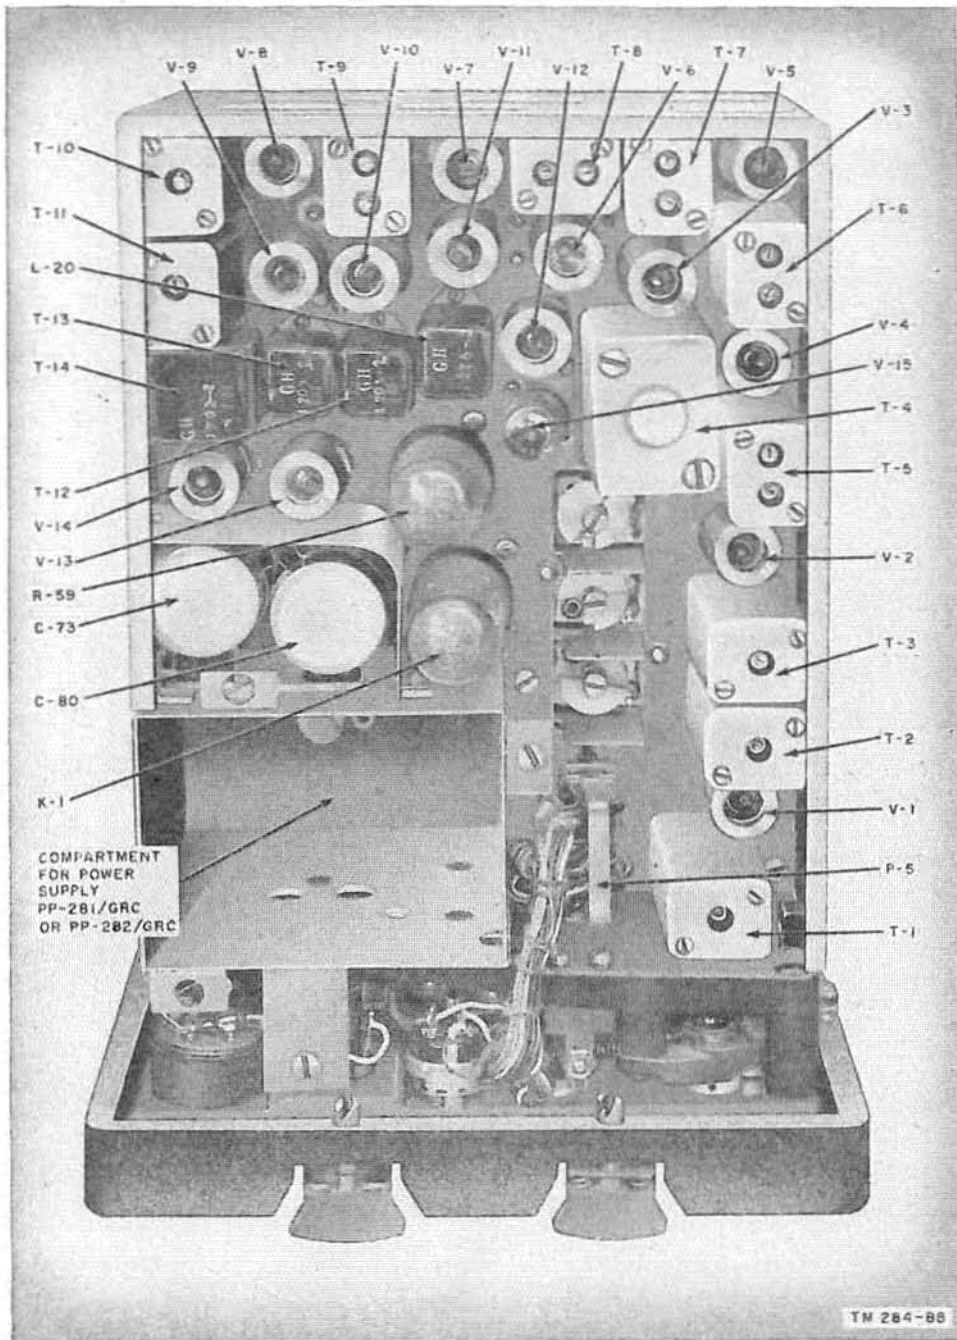

Figure 71. Receiver panel-chassis assembly, top view.
located on the top of the chassis (fig. 71). Either component can be removed in the same manner as any standard octal-base tube. Pull straight upward; do not rock or jiggle the tube in its socket.
c. TUBES. All of the tubes are accessible from the top of the chassis when the case is removed (fig. 71). To remove any tube first remove the shield and then use a tube puller. Do not rock or jiggle the tubes; they may be easily damaged by careless handling.